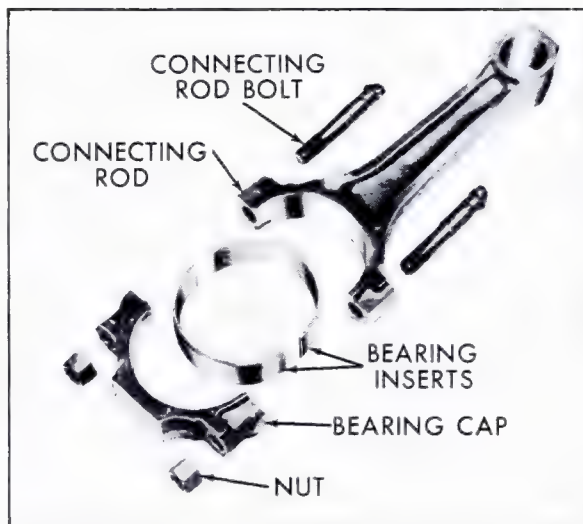

Fig. 6-130 Connecting Rod and Bearings
6. Remove connecting rod cap by removing connecting rod nuts and sliding cap down off connecting rod bolts, Fig. 6-130.